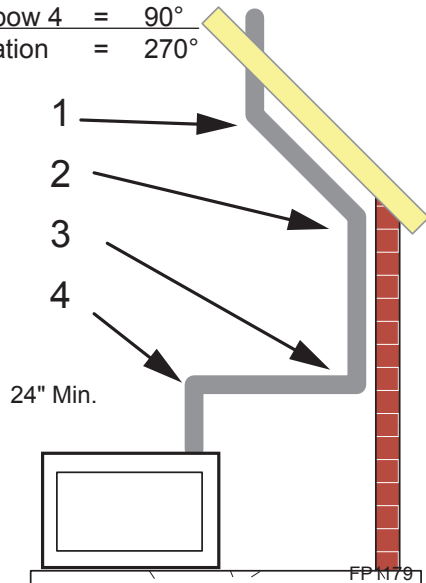

**Figure 22 -
- Two sets of 45°elbows offsets may be used within the vertical sections. From 0 to a maximum of 8' (2.5 m) of vent pipe can be used between elbows. *Figure 22*
- The maximum angular variation allowed in the system is 270°. *Figure 22*
**NOTE:** Pay special attention to these installation instructions for required clearances (air space) to combustibles when passing through ceilings, walls, roofs, enclosures, attic rafters, etc. Do not pack air spaces with insulation. Also note maximum vertical rise of the venting system and any maximum horizontal offset limitations. Offsets must fall within the parameters shown in Figures 22 and 23.